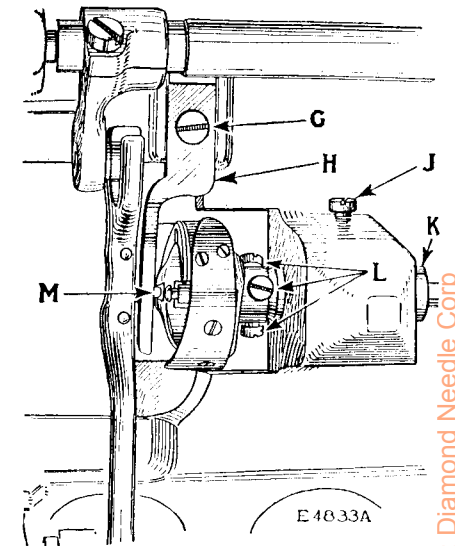
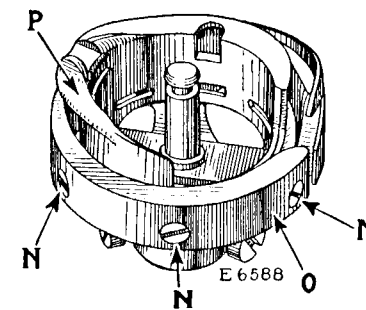
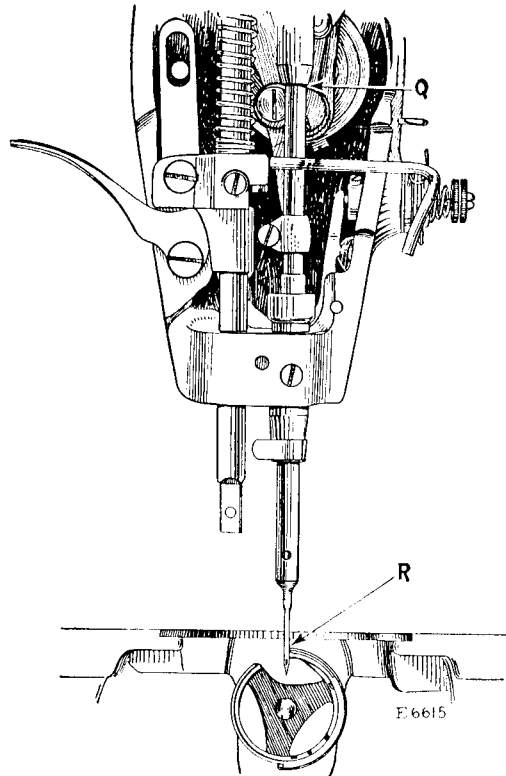
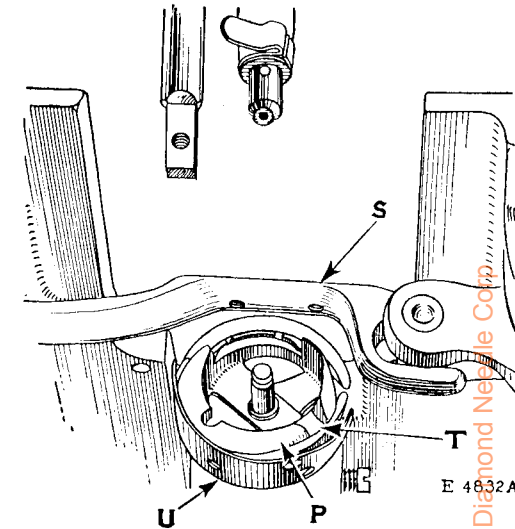

FIG. 20. VIEW OF UNDERSIDE OF MACHINE SHOWING BOBBIN CASE HOLDER POSITION BRACKET (H) AND ADJUSTMENTS ON MACHINE
FIG. 21. SEWING HOOK WITH BOBBIN CASE HOLDER
FIG. 22. NEEDLE AND SEWING HOOK CORRECTLY TIMED
FIG. 23. SHOWING CORRECT POSITION OF THREAD GUARD (U) AND BOBBIN CASE HOLDER (P) FOR REMOVAL OF SEWING HOOK
Remove the slide plate and bobbin case. Take out the screw (G, Fig. 20) and remove the bobbin case holder position bracket
(H, Fig. 20). Take out the three screws (N, Fig. 21) and remove the rotating hook section (O, Fig. 21) and bobbin case holder (P, Fig. 21). This will give a clear view of the point of the hook and the needle for the purpose of timing.
wheel over toward you until the **lower timing mark** on the needle bar is centred with the lower end of the needle bar bushing, as shown at Q, in Fig. 22, when the needle bar is on its upward stroke. When the needle bar is in this position, the point of the hook should be at the centre of the needle, as shown at R, in Fig. 22.
In case the hook is not correctly timed, loosen the three screws (L, Fig. 20) in the hub of the hook and turn the hook on the shaft until the point of the hook is at the centre of the needle, as shown at R, in Fig. 22, then tighten the three screws (L).
The hook should be set as close as possible to the needle without touching. If the hook is too close to the needle or too far away from it, loosen the three screws (L, Fig. 20) and the bushing screw (J, Fig. 20) and drive the bushing (K, Fig. 20) in or out, as may be required, until the hook just clears the needle, being very careful not to damage the bushing, then securely tighten the bushing screw (J) and the three screws (L).
Remove the needle, slide plate and bobbin case. Take out the screw (G, Fig. 20) and remove the bobbin case holder position
bracket (H, Fig. 20). Loosen the three set screws (L, Fig. 20) in the hub of the hook, then turn the balance wheel over toward you until the feed bar (S, Fig. 23) is raised to its highest point. Turn the sewing hook until the thread guard (U, Fig. 23) is at the bottom, as shown in Fig. 23, and turn the bobbin case holder (P, Fig. 23) until it is in the position shown in Fig. 23. The sewing hook can then be removed from the hook shaft.
When replacing a new sewing hook on the shaft, have the thread guard (U) of the hook at the bottom and the bobbin case holder (P) turned to the position shown in Fig. 23, so that the hook will clear the feed bar (S).
When the hook is in position on the shaft, turn the bobbin case holder (P, Fig. 23) until the notch (T, Fig. 23) is at the top, then replace the bobbin case holder position bracket (H, Fig. 20), being careful to see that the position stud (M, Fig. 20) enters the notch at the top of the bobbin case holder, as shown in Fig. 20,
then securely fasten the position bracket by means of the screw (G, Fig. 20). Replace the needle and time the sewing hook as instructed on pages 17 and 18. When tightening the three screws (I, Fig. 20) in the hub of the hook, draw the hook shaft toward the needle bar end of the machine and press the hook toward the balance wheel so as to take up the end play in the shaft. Then replace the bobbin case and slide plate.